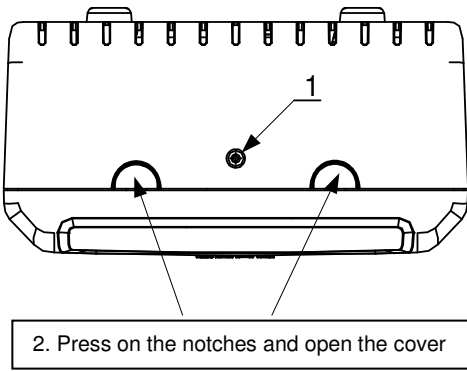

Figure 1. Top View
- 2) Press on the notches on the top side of the RIP enclosure and open the cover (Figure 1).